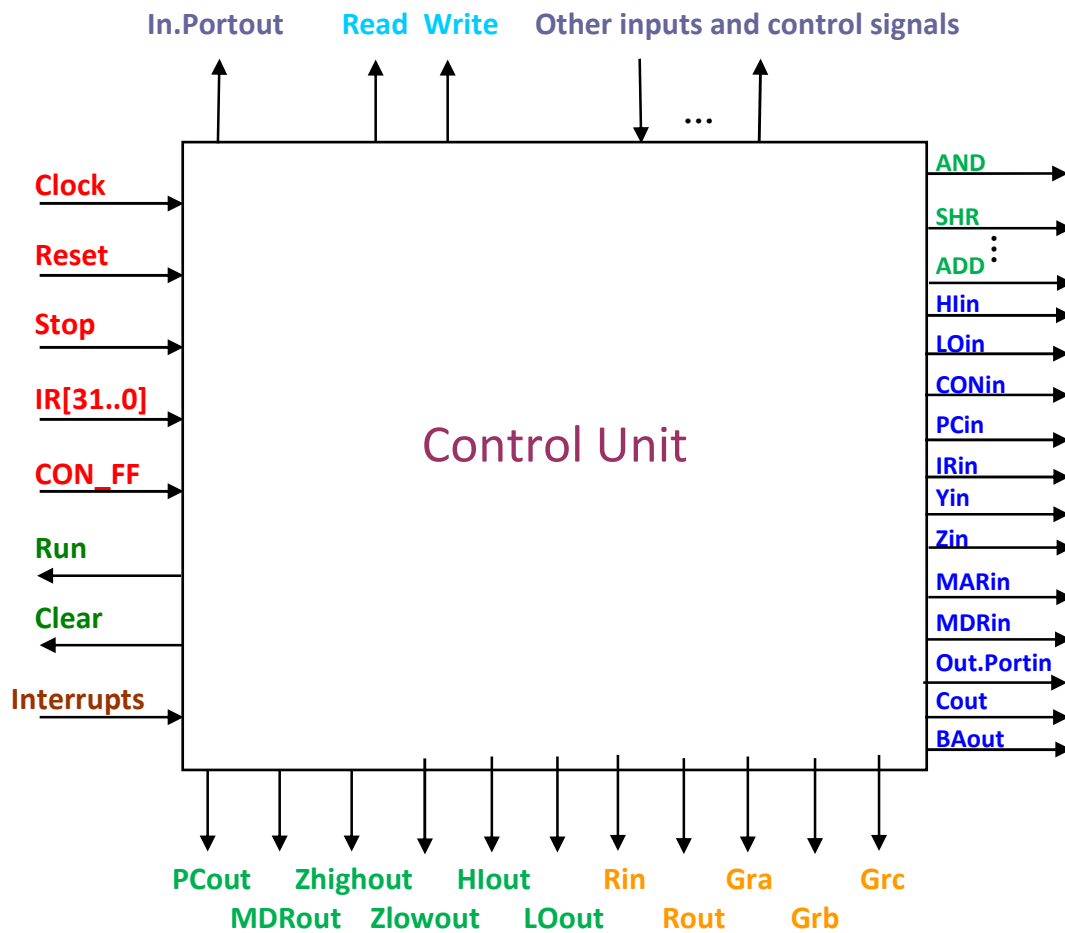

Figure 5: Block diagram of the Control Unit
The ALU has two inputs, A and B, and an output, C. Because the bus can support only one transaction at a time, one of the inputs (A input) to the ALU needs to be stored in the 32-bit temporary register, Y. As discussed in the CPU Specification document, the ALU supports the addition, subtraction, multiplication, division, shift right, shift left, rotate right, rotate left, logical AND, Logical OR, negate, and NOT operations. The control signals to the ALU (generated by the Control Unit in Phase 3, as shown in Figure 5) will enforce the required operation. These control signals include *ADD*, *SUB*, *MUL*, *DIV*, *SHR*, *SHL*, *ROR*, *ROL*, *AND*, *OR*, *NEG*, and *NOT* control signals, among others. Note that in Phase 1 and Phase 2, you simulate such control
**2.2 Control Unit:** The Control unit is to be designed in Phase 3. However, a block diagram is provided in Figure 5 for a better understanding of the Datapath. The Control Unit is at the heart of the processor. It accepts as inputs those signals that are needed to operate the processor and provides as outputs all the control signals necessary to execute the instructions. The outputs from the Control Unit are the control signals that we use to generate **Control Sequences** for the instructions of the Mini SRC.